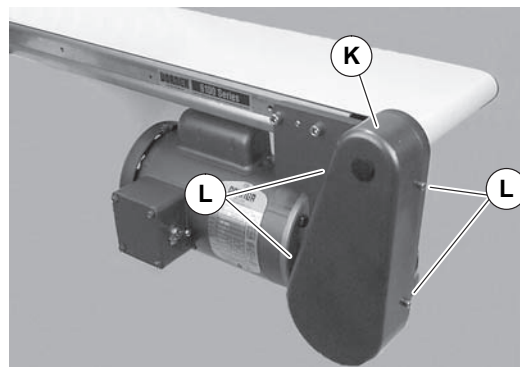

Figure 17
10. Install cover (Figure 17, item K) with four (4) screws (L). Tighten to 35 in-lb (4 N-m).
1. Remove four (4) screws (Figure 17, item L) and remove cover (K).
4. Install cover (Figure 17, item K) with four (4) screws (L). Tighten to 35 in-lb (4 N-m).
6. Install cover (Figure 17, item K) with four (4) screws (L). Tighten to 35 in-lb (4 N-m).